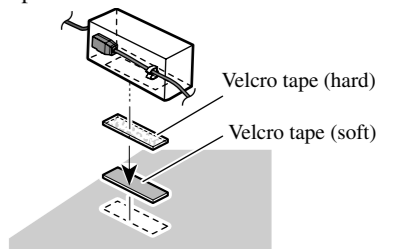

Fig. 9
- When installing the optical cable connection box with the velcro tape. (Fig. 9)